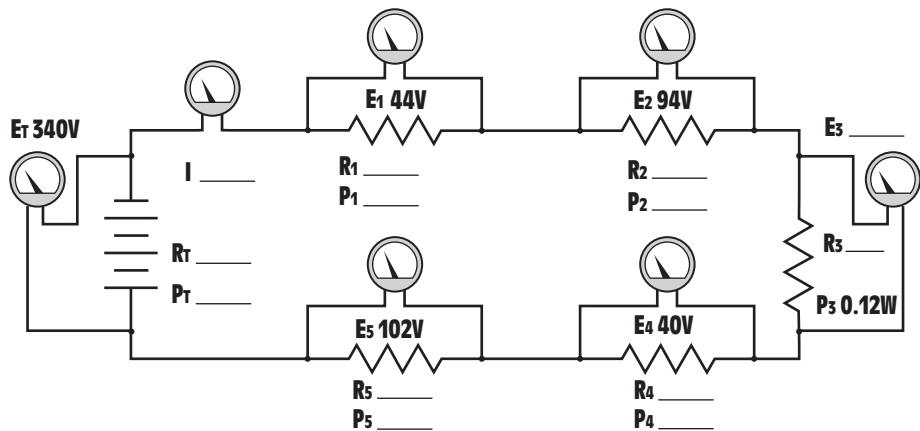

Figure 5-28 Practice Problem 3.
3. Find the missing values in the circuit shown in *Figure 5-28*.